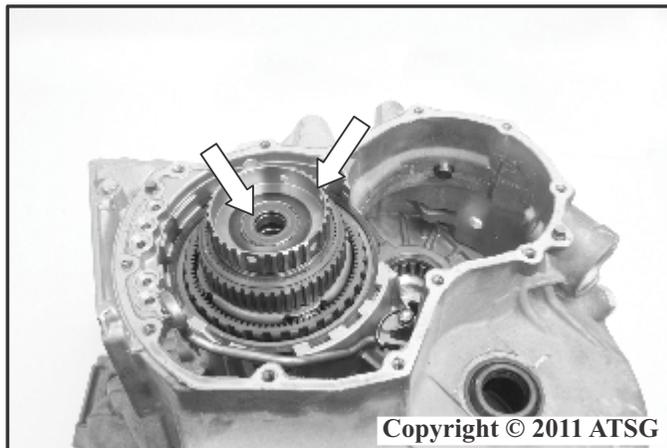

Figure 216
18. Install the rear sun gear assembly with a twisting motion and make sure the input shaft thrust bearing assembly does not become dislodged as shown in Figure 216.